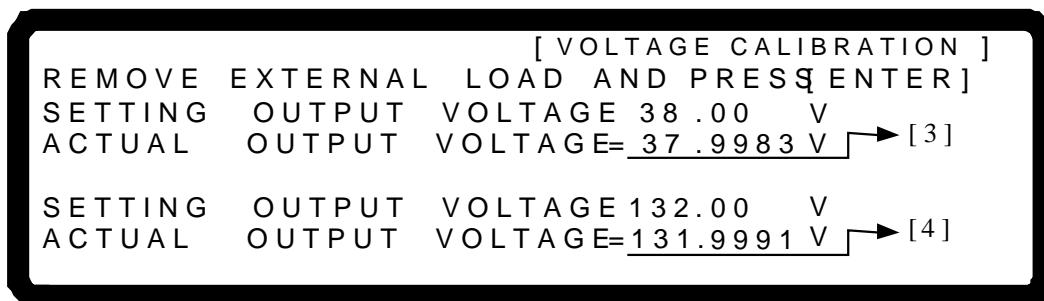

Figure 3-139
7. Press “” to do the high voltage range calibration. The device will output 38.00V and the cursor will stop at position [3] as shown in Figure 3-139. Enter the voltage read by the DVM and press “**ENTER**” to confirm it.
8. Press “” to do the second high voltage range point calibration. The device will output 132.00V and the cursor will stop at position [4] as shown in Figure 3-139. Enter the voltage read by the DVM and press “**ENTER**” to confirm it.